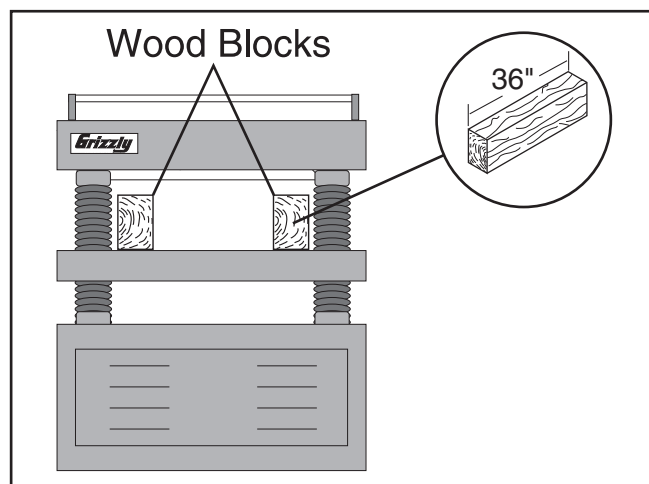

Figure 42. Wood blocks properly positioned on the planer table.
4. Place wood blocks along sides of table, as illustrated in **Figure 42**.